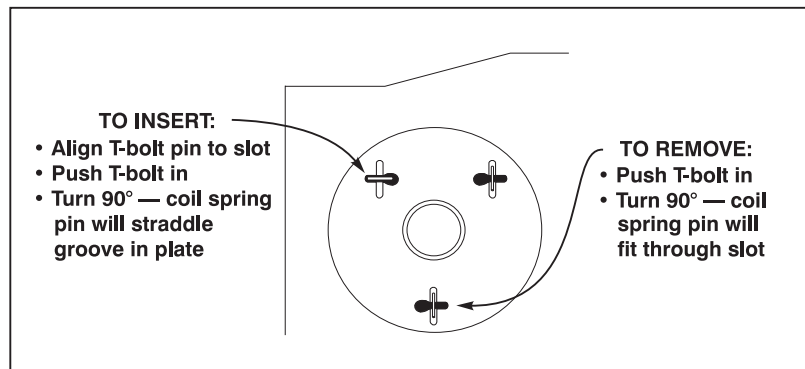

Figure 4.8. Using the T-bolts
- Push the lamp all the way back and make sure the pin on each T-bolt aligns with its slot on the alignment plate—slowly turn each until the clearance slot is located. Then push and turn each T-bolt 90° to lock. See Figure 4.8.